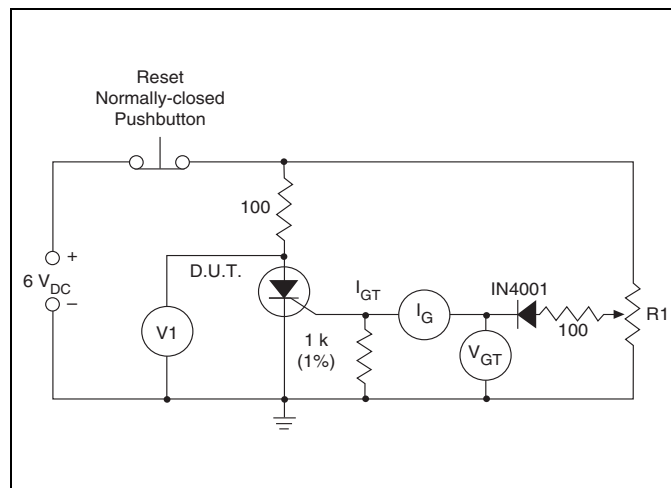

Figure E5.19 Simple Test Circuit for Gate Trigger Voltage and Current Measurement
- V_D = 6 V dc, R_L = 100 Ω (See Figure E5.19 for simple test circuit for measuring gate trigger voltage and gate trigger current.)